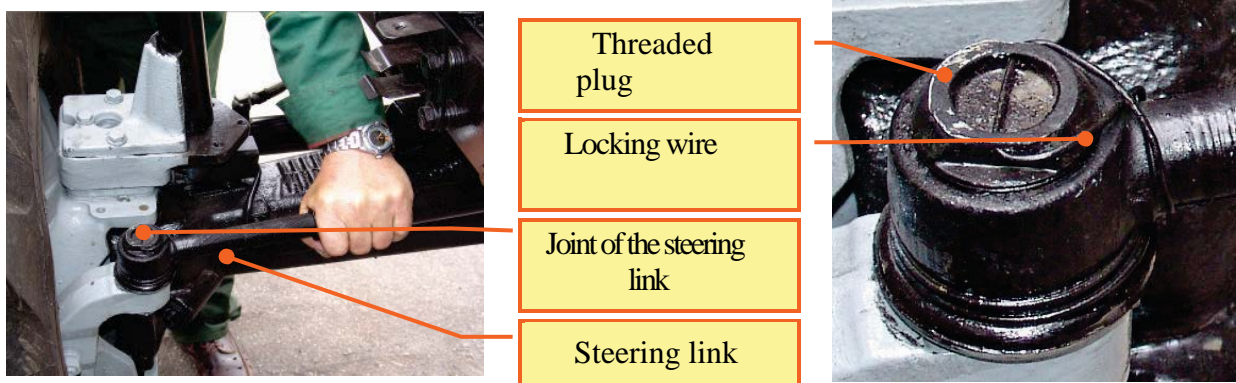

Figure 8.43
**Procedure 36. Check the Plays in the Steering Link Joints (in case of installation of the FDA with two hydraulic cylinders of the HPS) (fig. 8.43)**